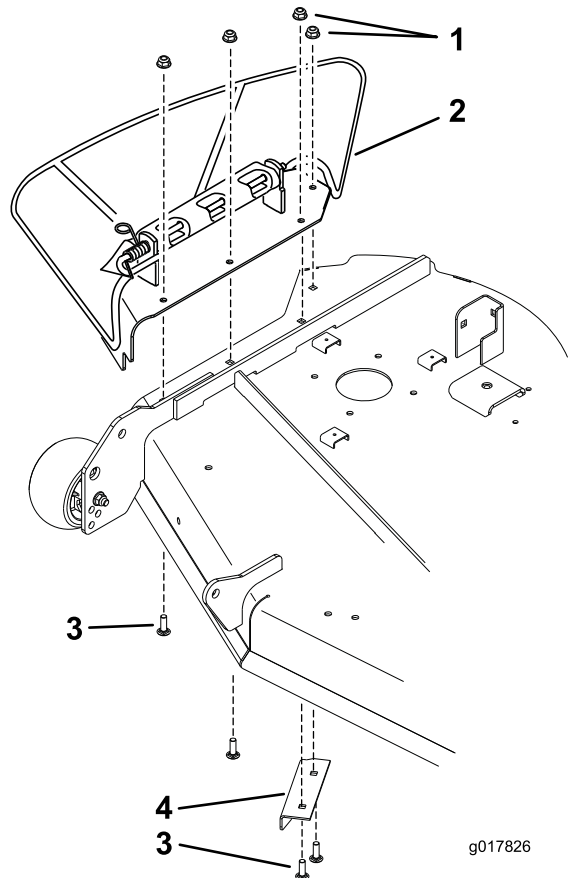

Figure 22
1. Remove the plate assembly that includes the side-discharge chute (Figure 22).